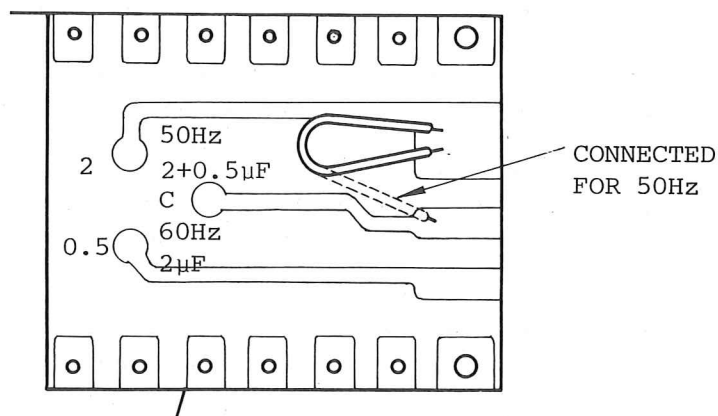

Fig. 2-4 Starting Capacitor
6. Resolder the lead wire on the starting capacitor p.c.b. as shown in Fig2-4.